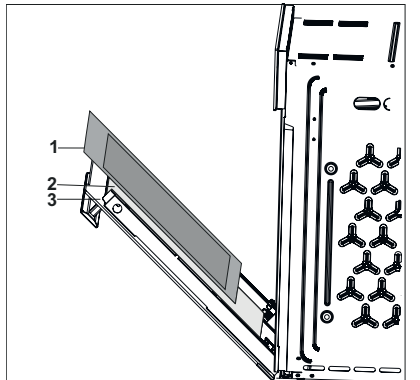

Fig. 38
- Remove the internal and intermediate glass of the appliance to clean it (Fig. 38).